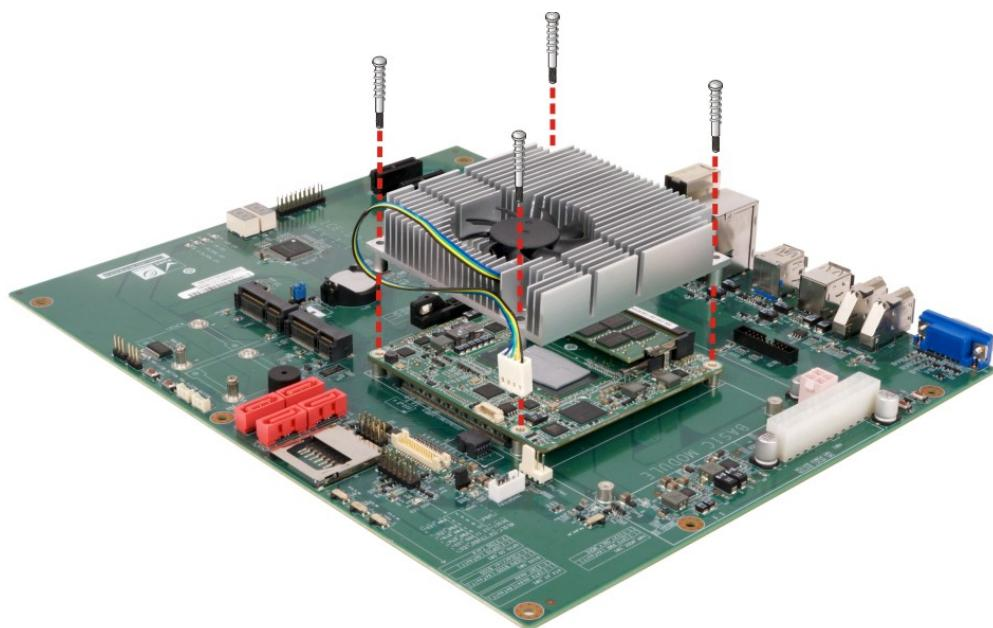

**Figure 4-2: Connect the COM Express Connectors**
**Step 1:** Align the two COM Express connector on the solder side of the ICE-ULT3 with the corresponding connector on the baseboard. Gently push the COM Express module down to ensure the connectors are properly connected (Figure 4-2).